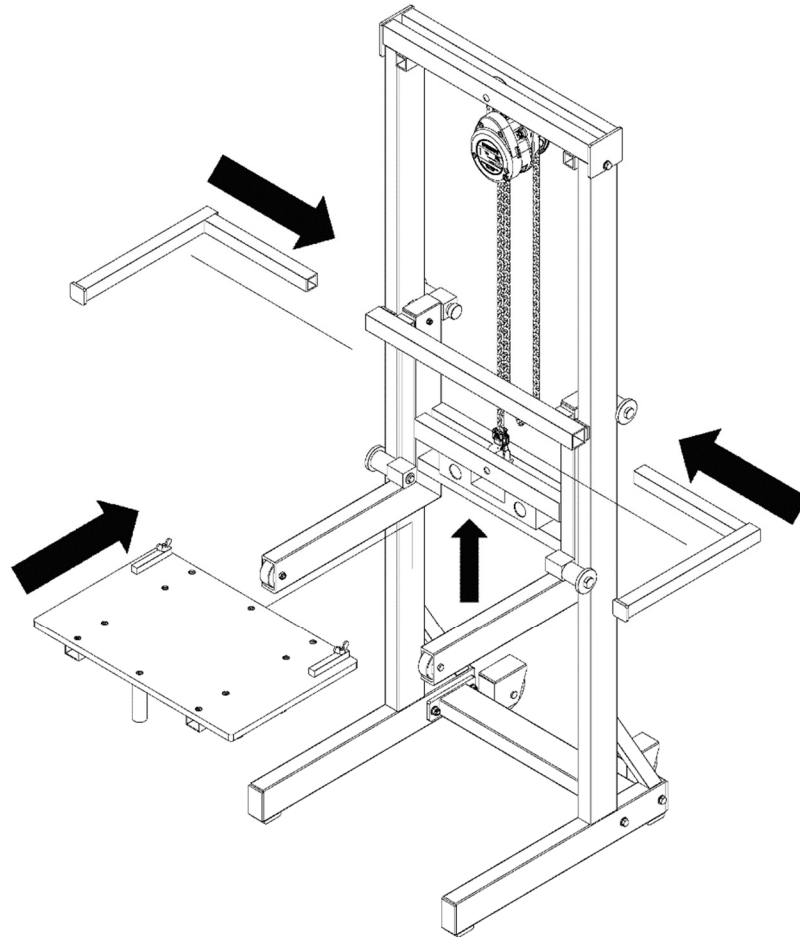

Fig. 5
- 7.5 Next, connect the lower hook of the chain hoist with the mounting bolt of the forked frame as shown in Fig. 5.
The next step is to place the counter brackets into the attachments on the forked frame as shown in Fig. 5.
Place the pallet as shown in Fig. 5 on to the forks of the forked frame and push the pallet right up to the forked frame arrestor.